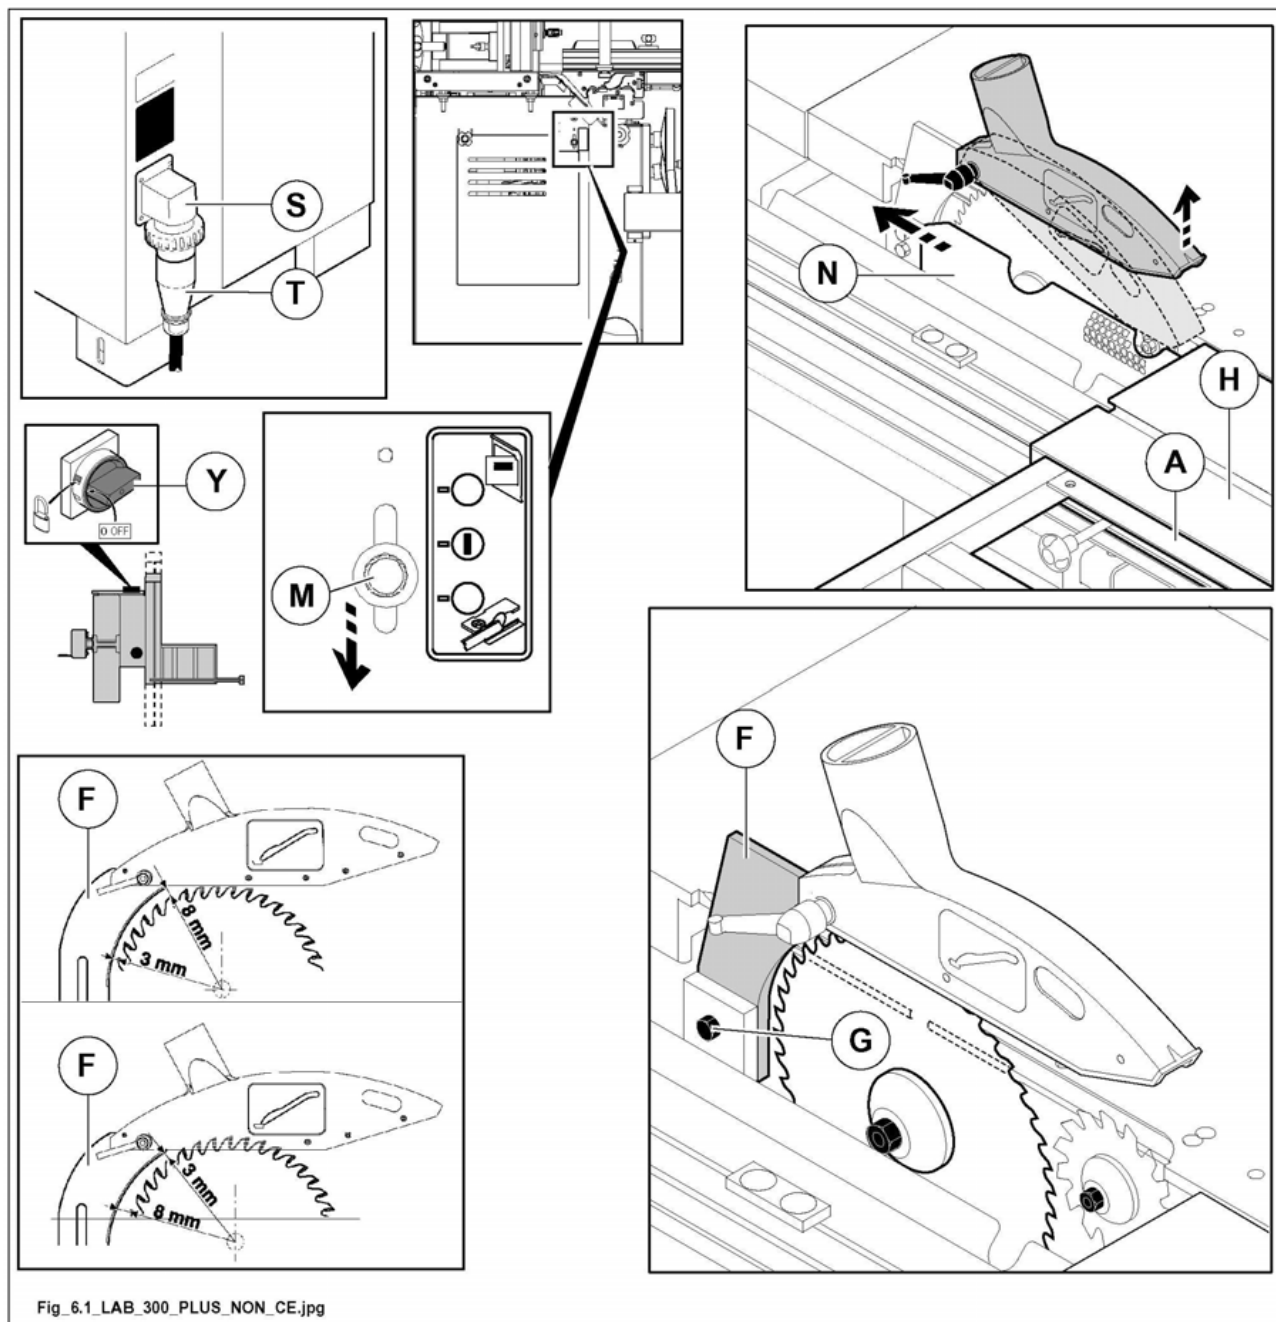

Fig. 6.1
U.S.A. and CANADA version:*before carrying out maintenance operations, adjustments or to dismount any machine member turn main switch (Y fig. 6.1) to 0, lock it then indicate this with a sign.*
- 2) Position the squaring frame (A fig. 6.1) as shown in the figure and translate the wagon (H fig. 6.1) completely to the right.
- 3) Lower the lever (M fig. 6.1) and open the guard (N fig. 6.1).
- 4) Adjust dividing knife (F fig. 6.1) height by unloosing nut (G fig. 6.1).